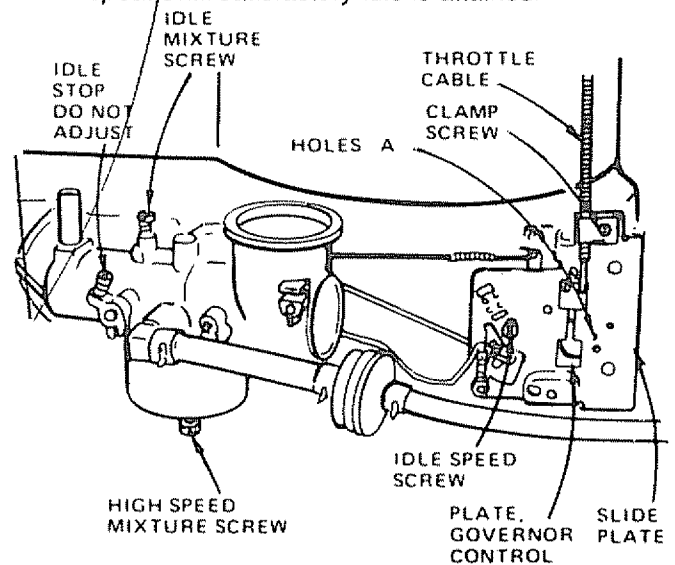

FIGURE 18
- Loosen Clamp Screw (Fig. 18). Adjust Throttle Cable until holes "A" are aligned in governor control plate and slide plate.
- With engine off turn high speed mixture screw clockwise (↻) closing finger tight ONLY, and turn counterclockwise (↺) 1-1/2 turns (Fig. 18)
- Turn idle mixture screw clockwise (↻) closing finger tight only, and turn counterclockwise (↺) 1-1/2 turns (Fig. 18).
- With engine cool, remove filter and plug. Fuel line sections removed from both ends of fuel filter (Fig. 18).